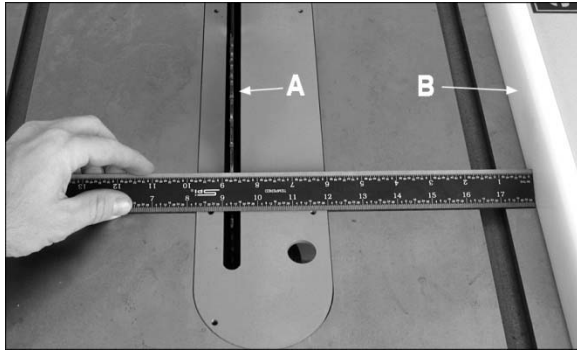

Figure 34
The rip fence (A, Fig. 34) should be set for the width of the cut by using the scale on the front rail, or by measuring the distance between blade (A) and fence (B). Stand out of line with saw blade and workpiece to avoid sawdust and splinters coming off the blade or a potential kickback.